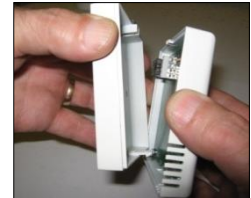

Fig 6
- Step 1** Using a screwdriver undo the screw on the top of the remote control case and pull the back case away (see Fig 6).